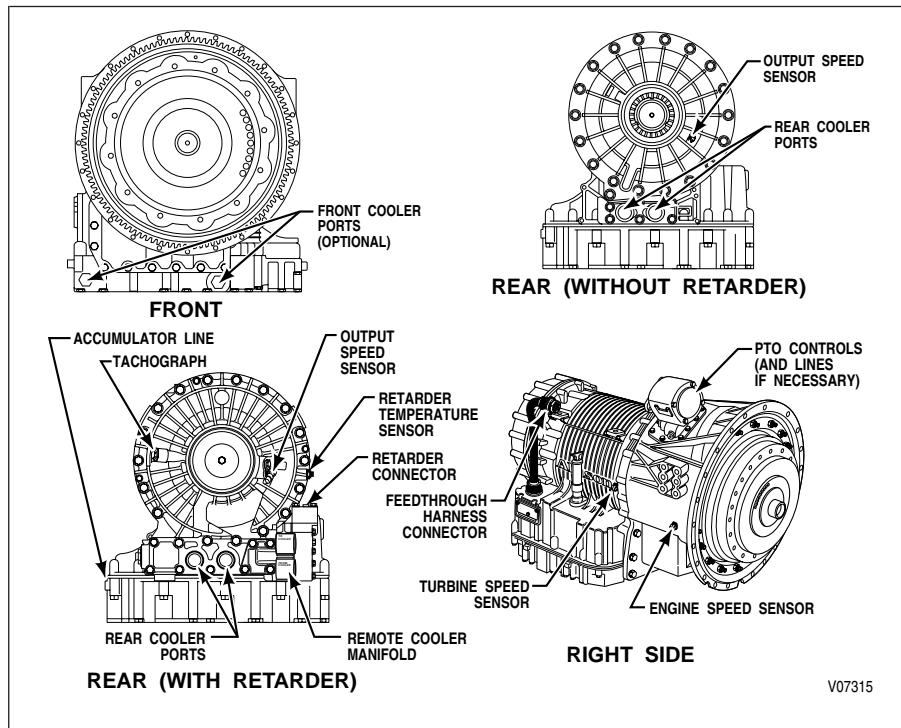

Figure 3-1. HD/B 500/4000MH Disconnect Locations
- Disconnect the external wiring harness at the feedthrough harness connector. Refer to Figure 3-1 or Figure 3-2. Prevent dirt or moisture from entering a disconnected connector. Position the wiring harness so it does not interfere with transmission removal.